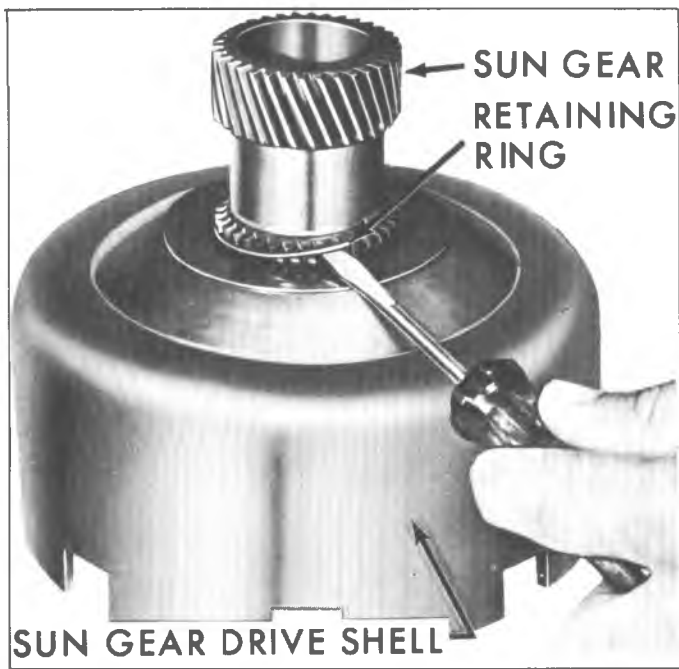

Fig. 86M-Removing Sun Gear Drive Shell Rear Retaining Ring
1. Remove sun gear to sun gear drive shell rear retaining ring (fig. 86M).